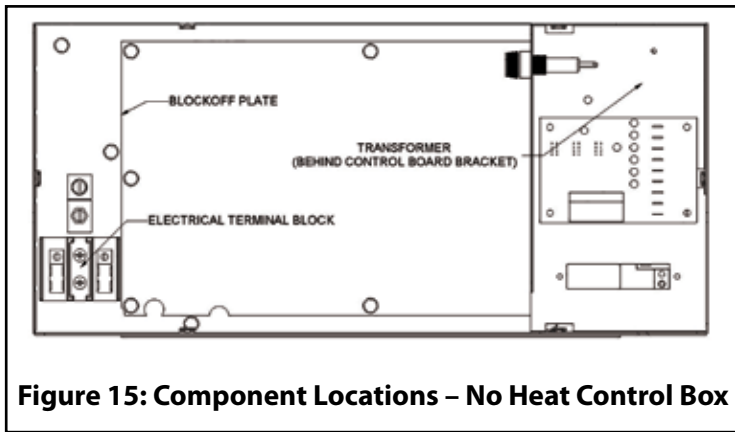

Figure 15: Component Locations – No Heat Control Box
2. Remove the block off plate shown in Figure 15 and discard. Retain the screws, they will be used to secure the electric heater mount plate.
FOR CIRCUIT BREAKER MODELS ONLY: After the supply wiring has been connected to the circuit breakers, remove the transformer and indoor blower motor wires from the terminal block (See Figure 15) and connect them to load side of circuit breaker #1.